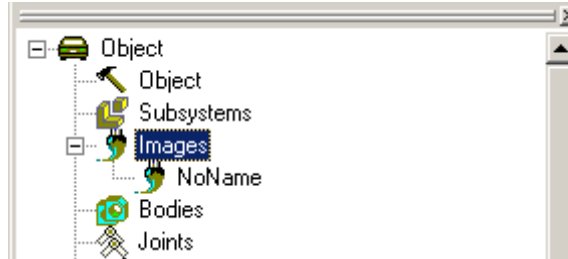

Figure 1.13.
1. Load a graphical object from the {UM Data}\graph\Base1.umi file using  button or **Edit | Read from file...** menu item. Element «NoName» will be added to the list of graphic elements, see Figure 1.13.